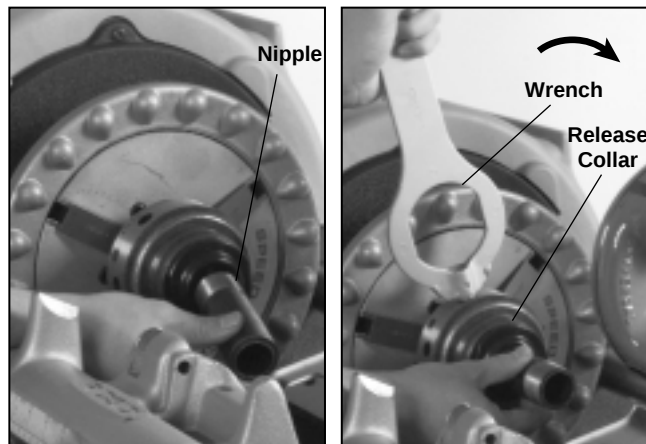

Figure 21 – Installing Unfinished Nipple and Releasing Finished Nipple with Wrench
5. Screw nipple (Figure 21) threaded on one end into adapter by hand. Turn directional switch to ON and press down on foot switch. Ream and thread other end.
6. Insert pin on end of wrench (Figure 21) into one of holes in nipple chuck release collar and turn. Remove threaded nipple by hand.